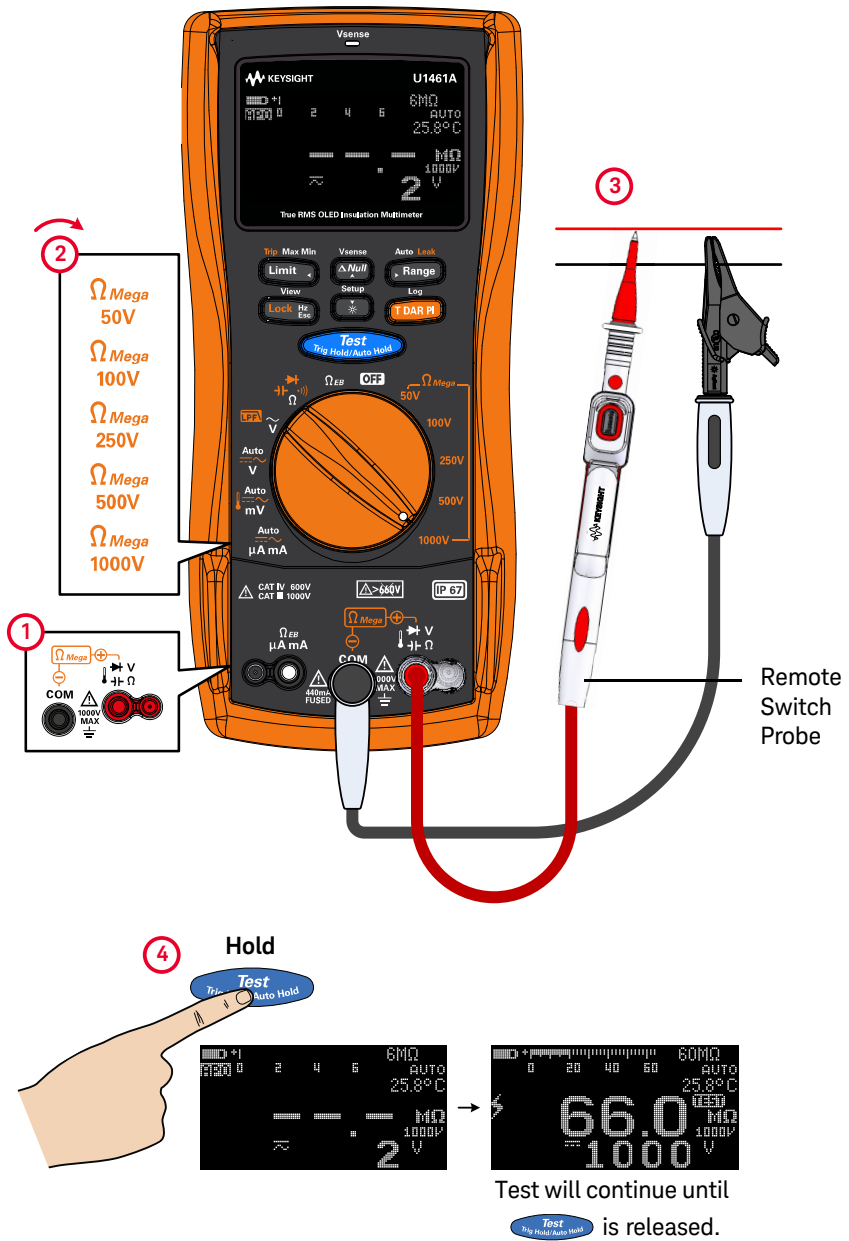
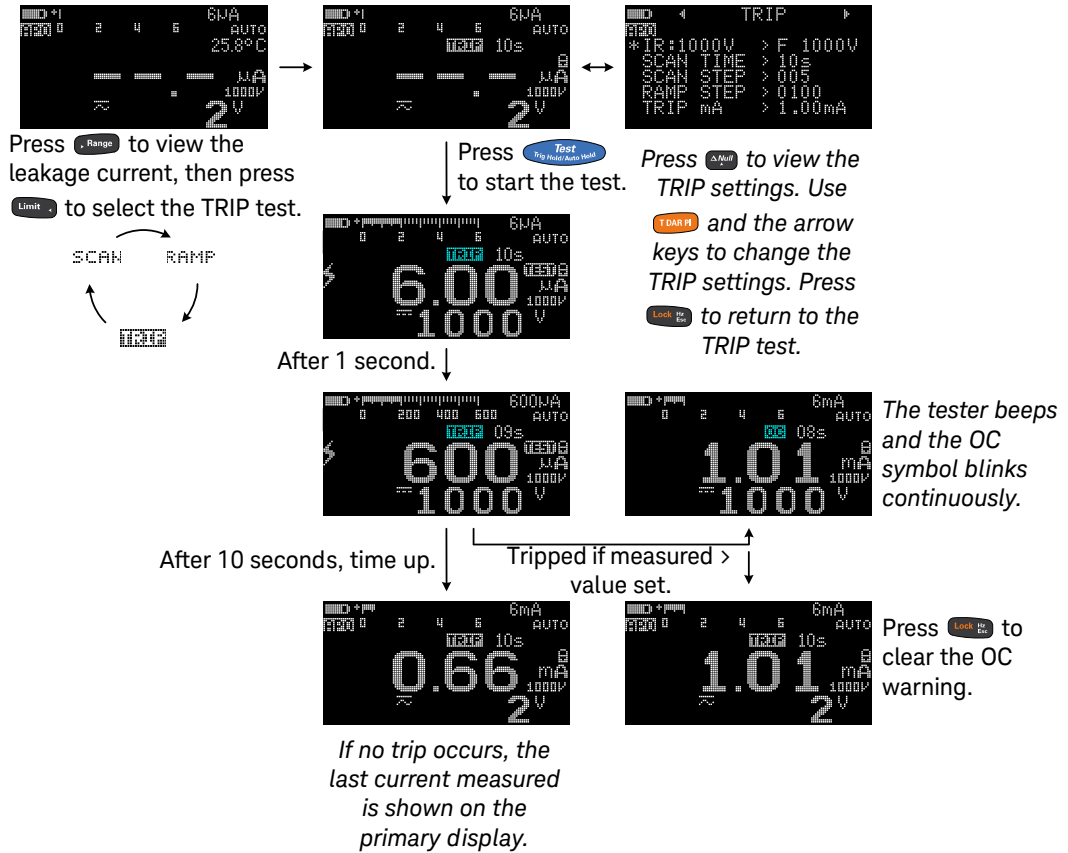

Figure 2-1 Insulation resistance test example
Figure 2-5 TRIP operation
Set up your tester as shown in Figure 2-1. Set the rotary switch to a test voltage value that does not exceed the maximum voltage limitation of the circuit under test. Ensure that the device-under-test (DUT) is de-energized before performing any resistance measurement.
Use the timed test to obtain measurement results with consistent test times – for later comparisons. Set up your tester as shown in Figure 2-1, and follow the steps shown below.
Dielectric Absorption Ratio (DAR) is the ratio of the insulation resistance tested at 60 seconds to the insulation resistance tested at 30 seconds. Set up your tester as shown in Figure 2-1, and follow the steps shown below.
Polarization Index (PI) is the ratio of the insulation resistance tested at 10 minutes to the insulation resistance tested at 1 minute. Set up your tester as shown in **Figure 2-1**, and follow the steps shown below.
Set up your tester as shown in Figure 2-1, and follow the steps shown in Figure 2-5.